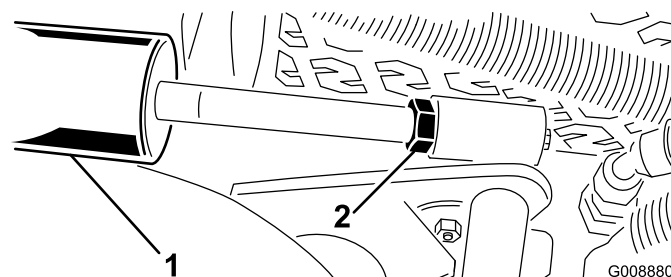

Figure 14
A. Lower the cutting units and back off the jam nut on the cylinder (Figure 14).